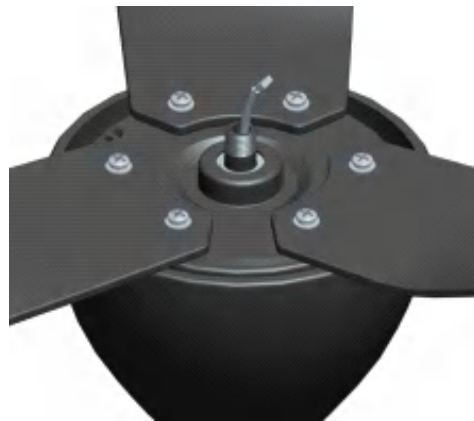

Fig 2.2
2.2 The installation of the blades is shown in the Fig 2.2.